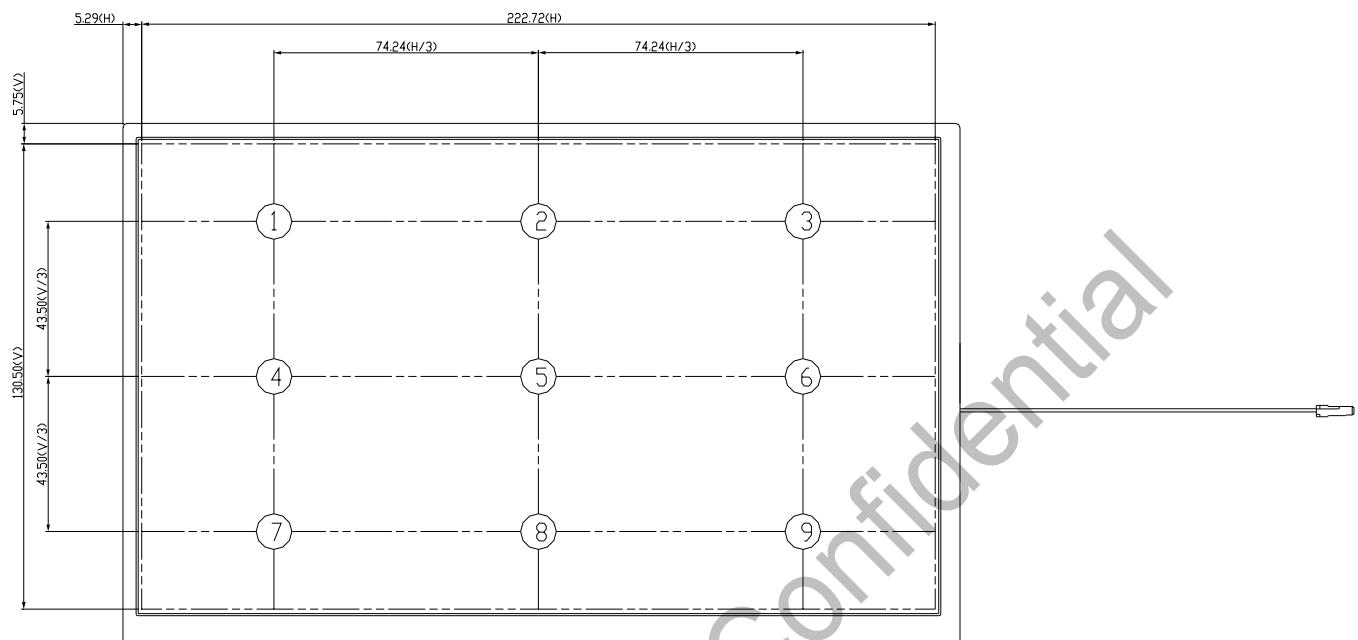

Fig.7-1 Measuring point
3) Definition of luminance : Measure white luminance on the point 5 as figure.7-1
Definition of Luminance Uniformity: Measure white luminance on the point1~9 as figure.7-1